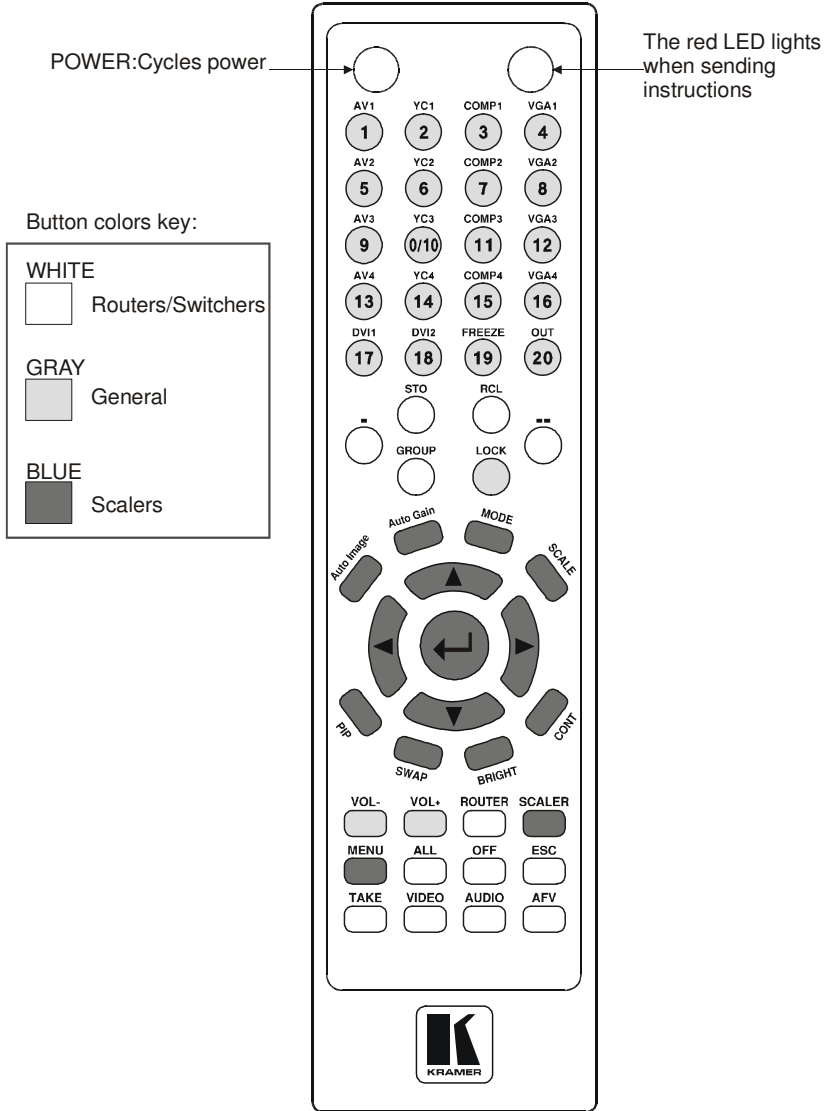

Figure 1: RC-IR2 Remote Control Transmitter
- Is a hand held infrared remote control transmitter1 that includes the protocols of all Kramer devices and is programmable to control any Kramer machine (see Figure 1)
Figure 1 and Table 1 define the **RC-IR2** remote control transmitter: